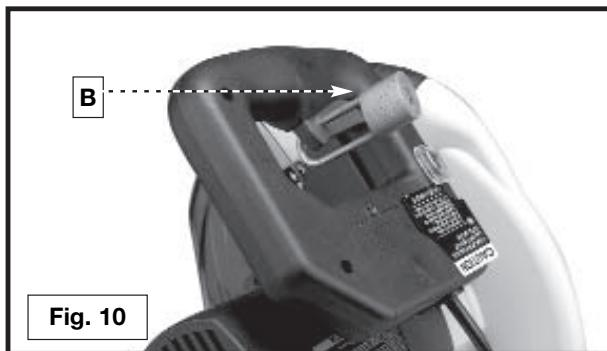

Fig. 10
**WARNING** When the machine is not in use, the switch should be locked in the "OFF" position, using a padlock (B) Fig. 10 with a 3/16" diameter shackle to prevent unauthorized use.